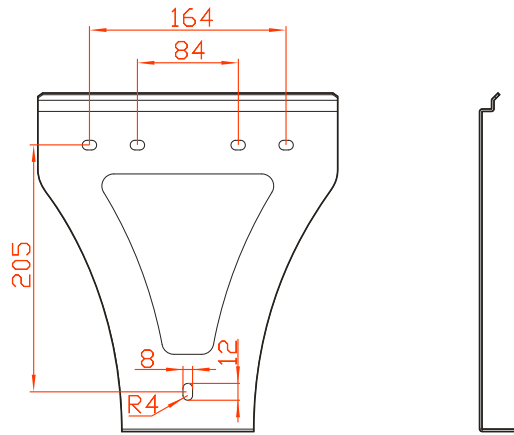
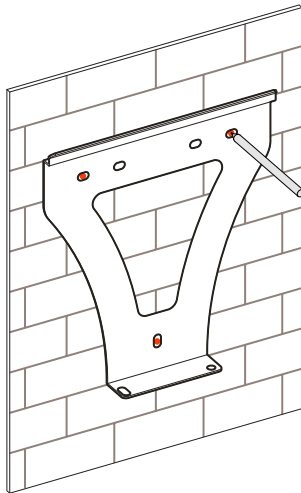

Figure3-7 Installation size (unit: mm)
Figure3-8 Mark the drilling position
- Step 2 Mark the position of installation holes on the wall according to the dimensions of the fixing holes of the installation holder (as shown in Figure3-7), and drill 3 holes of $\Phi 10.5\text{mm}$ on the wall according to marked position, as shown in Figure3-8.